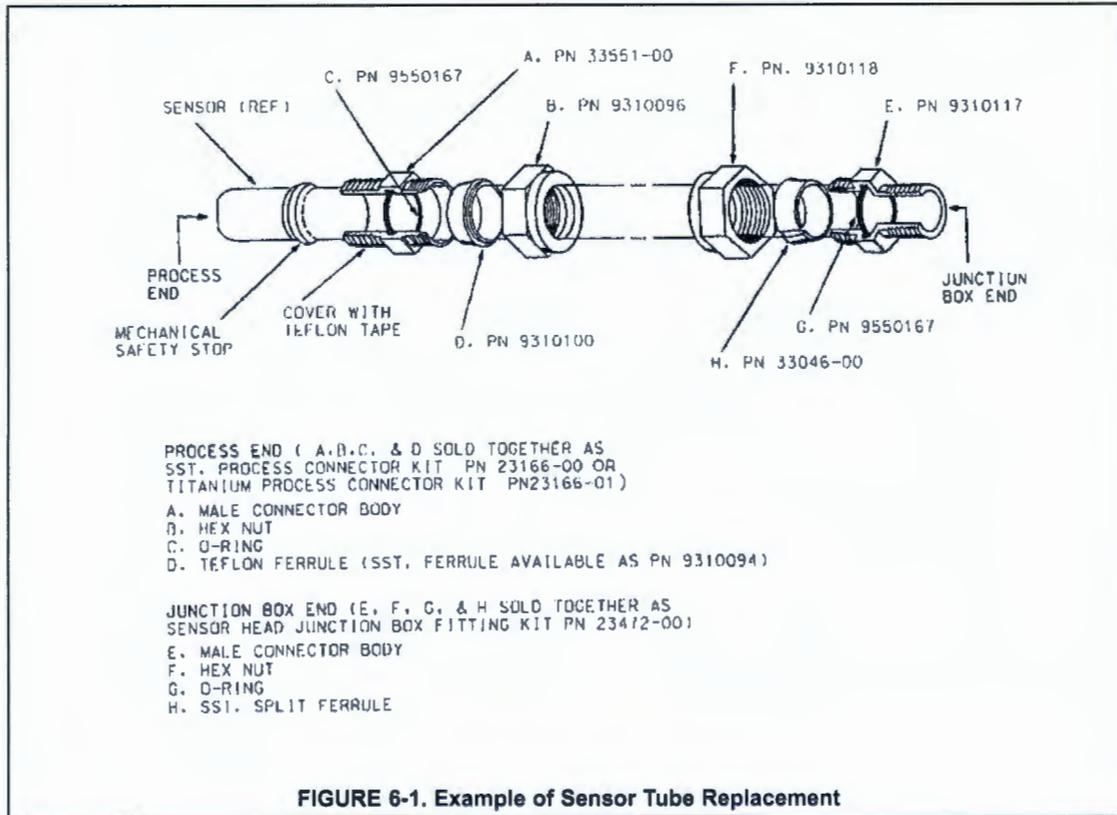

FIGURE 6-1. Example of Sensor Tube Replacement
1. Be certain system pressure at the sensor is below 64 psig (542 kPa) before proceeding with the retraction. It is also recommended that the personnel wear a face shield and have a stable footing. Refer to Figure 6-1. Push in on the sensor end or the top of the J-box and slowly loosen the hex nut (B) of the process end male connector (A).
2. Be certain that pressure at the sensor is below 35 psig (343 KPa) before proceeding with the retraction. It is also recommended that the personnel wear a face shield and have a stable footing. Refer to Figure 6-1. Push in on the sensor end or the top of the J-box and slowly loosen the hex nut (B) of the process end male connector (A).
6.6 Sensor Tube Replacement When Used With A Sensor Head Junction Box. Replacement of the retraction versions sensor tube assembly involves the removal and installation of two sets of male connectors: One at the process end of the sensor, and the other at the junction box end (See Figures 6-1, 6-2). Refer to Section 6.2 for proper removal of the sensor from process.
5. Cover the 1" MNPT pipe threads of the male connector body (A) with Teflon tape (not provided) to protect them from galling during reinstallation.
6. Pass the wires from the new sensor through the process end male connector (A). Make sure that the beveled edge of the ferrule faces the process end of the sensor. Snug the hex nut (B) to keep it in place. Do not tighten down fully on the hex nut at this time.
7. Pass the wires from the new sensor through the hex nut (D), the split ferrule (from the old sensor), male connector body (C), O-ring, and through the junction box from the "neck" opening and out to the printed circuit board in the junction box. Butt the ferrule's beveled edge and the sensor tube against the junction male connector (C). Screw the hex nut (D) by hand until the tube is "locked" into the male connector body. Make sure that the male connector body (C) is sufficiently tightened. The sensor will "click" into place by pulling the sensor tube away from the junction box, but will not move from side to side or pull clear of the male connector. If the sensor tube is correctly attached to the junction box, wrench tighten hex nut (D) on male connector body (C) (see Figure 6-1). Do not put the sensor tube in a vise or use a pipe wrench to tighten the hardware as these will damage the sensor. If sensor tube is not correctly attached to the junction box, loosen hex nut (D) and repeat.